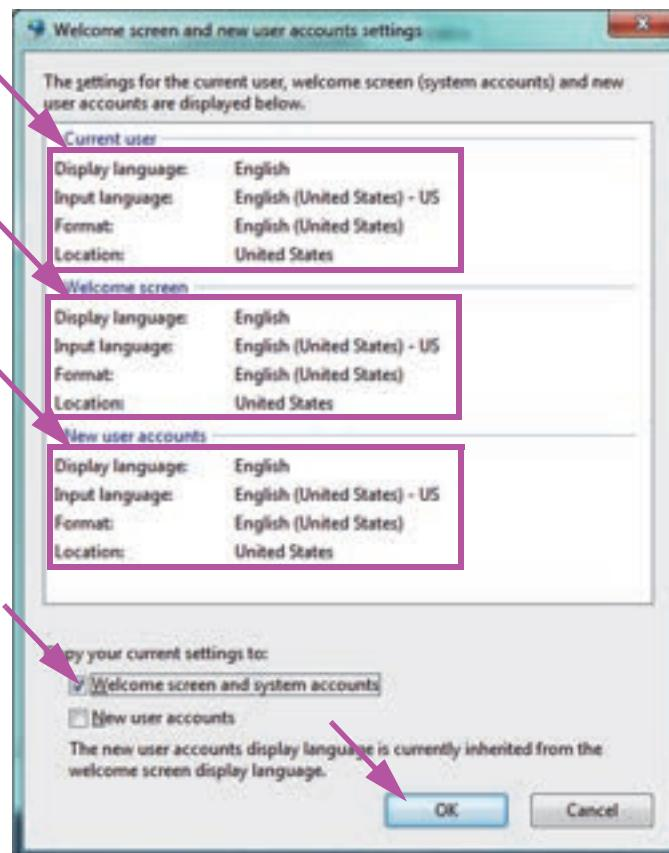

Figure C-17. Welcome Screen and New User Account Settings Screen
8. The Welcome screen and new user account settings screen appears (see Figure C-17).
9. Verify that the Format fields match the language selected in Section C.4.1, and the Input Language fields match the language selected in Section C.4.2 (see Figure C-17).